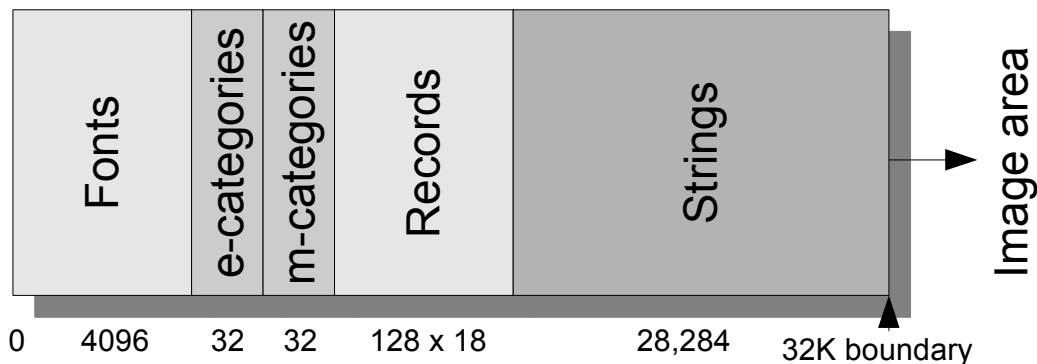

Figure 1: EEPROM layout
The organization of EEPROM is shown in Figure 1. The first 4KB chunk is used by the fonts file needed for rendering texts on the Nokia LCD. At location 4096, we have two word arrays, 16 items each, representing the category lists: event categories and *my* categories. Not all slots have to be filled: the array size (16) determines the limit on the number of categories, with the actual number possibly being smaller. The category lists are followed by the Records area, which again is an array of fixed-size entries (18 bytes each) representing the profiles of up to 128 people. This part, in turn, is followed by the Strings area, which is a storage for text strings pointed to from records or category lists.